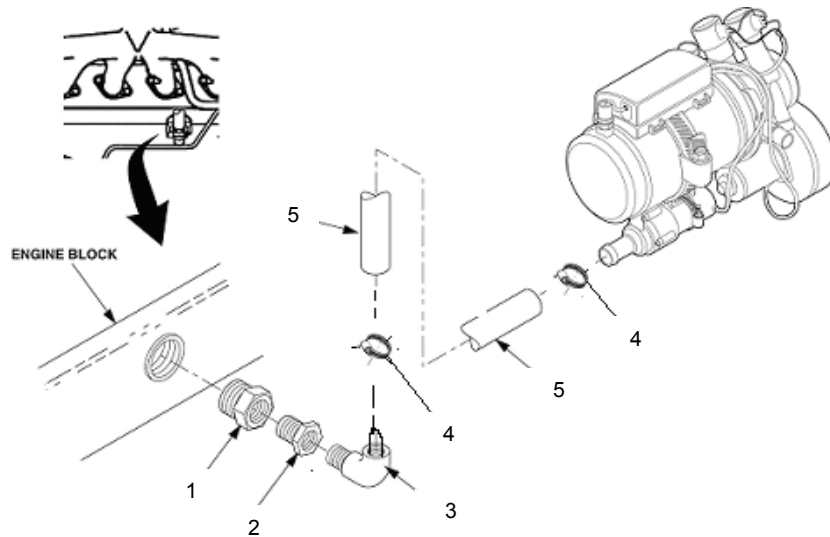

Figure 5-3. Coolant Inlet Hose Assembly
9. Remove plug from rear of engine head (refer to engine TM 9-6115-255-24) and install adapter (1), bushing (2) and elbow (3), Figure 5-3.
10. Install coolant hose (5) to elbow (3) and secure with clamp (4).
11. Install the other end of the coolant hose (5) to heater coolant intake using clamp (4).